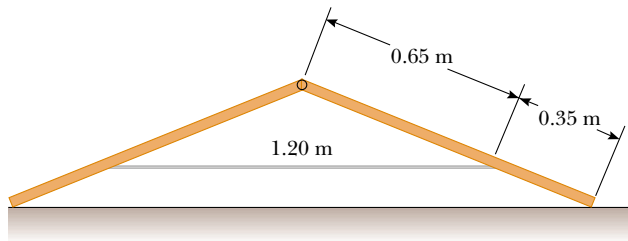

Figure P12.38
38. A frame in the shape of the letter **A** is formed from two uniform pieces of metal, each of weight 26.0 N and length 1.00 m. They are hinged at the top and held together by a horizontal wire 1.20 m in length (Fig. P12.38). The structure rests on a frictionless surface. If the wire is connected at points a distance of 0.650 m from the top of the frame, determine the tension in the wire.